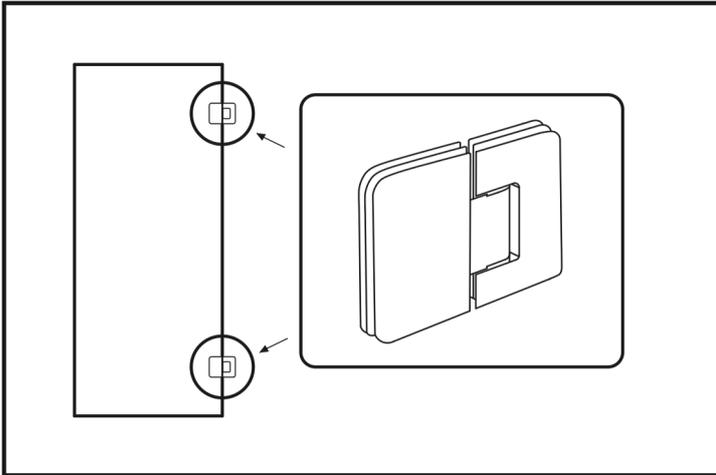

Figure 9
15. Install the hinges to the glass using the screws provided. (Figure 9)